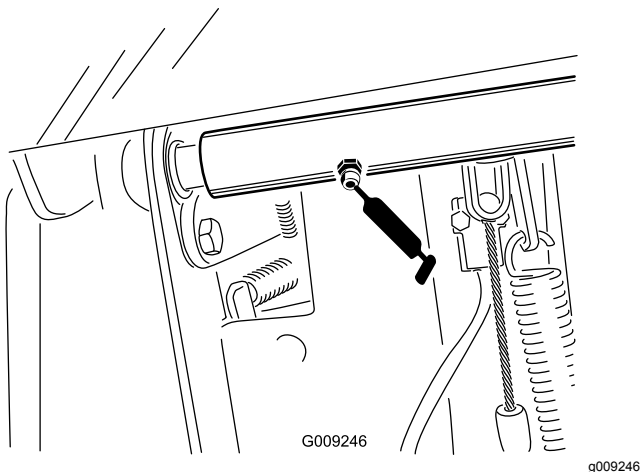

Figure 75
- 2 brake pedal pivot-shaft bearings (Figure 75)